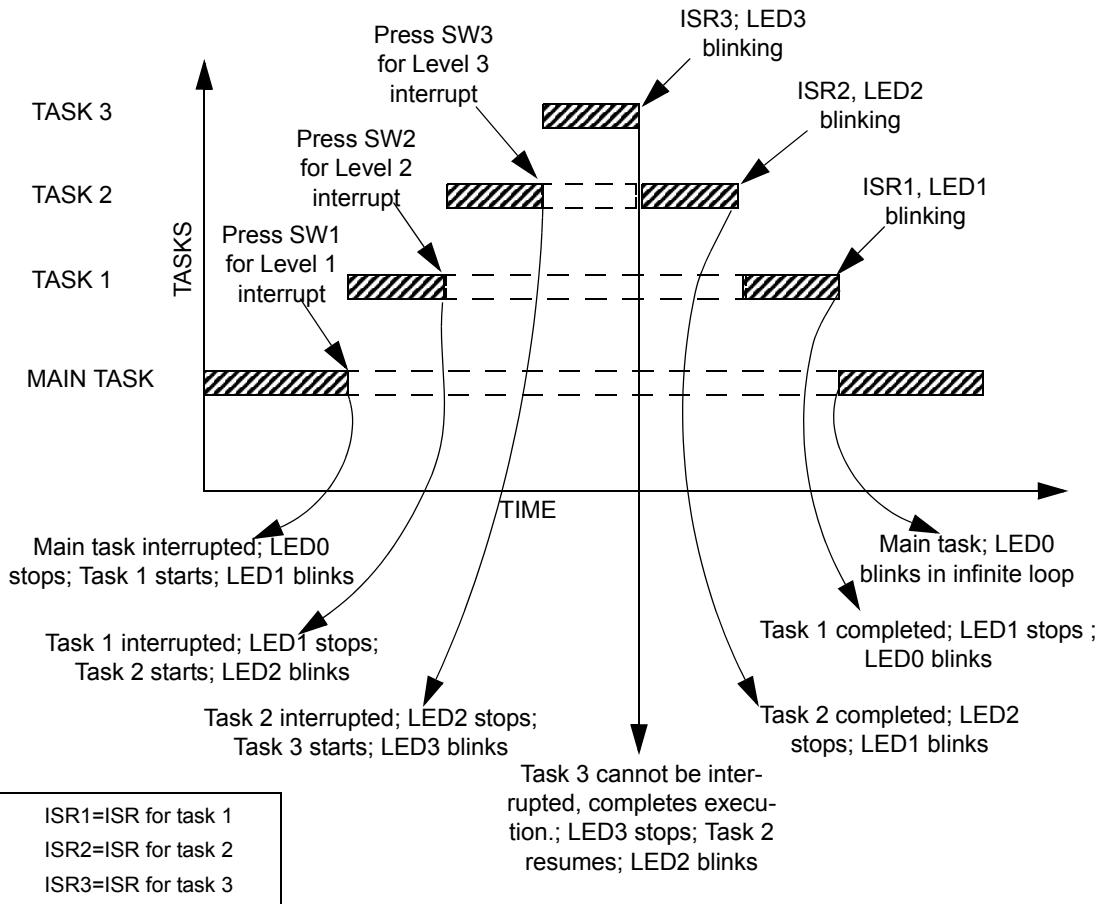

Figure 2. Graphical Representation of the Nesting Interrupts Demo
- While LED0 continues to blink, simulate an interrupt by pressing switch SW1 (see Figure 2 on page 7). Observe that the LED0 stops blink-
After a brief delay, LED3 stops blinking, indicating that ISR3 has completed executing and the program has jumped to ISR2, which causes LED2 to resume blinking. After a brief delay, LED2 stops blinking, indicating that ISR2 has completed execution. The program jumps to ISR1, and LED1 resumes blinking. LED1 stops blinking after a brief delay, and LED0 starts blinking, indicating that the program has jumped back to `main()`. Figure 2 on page 7 graphically displays this demonstration.